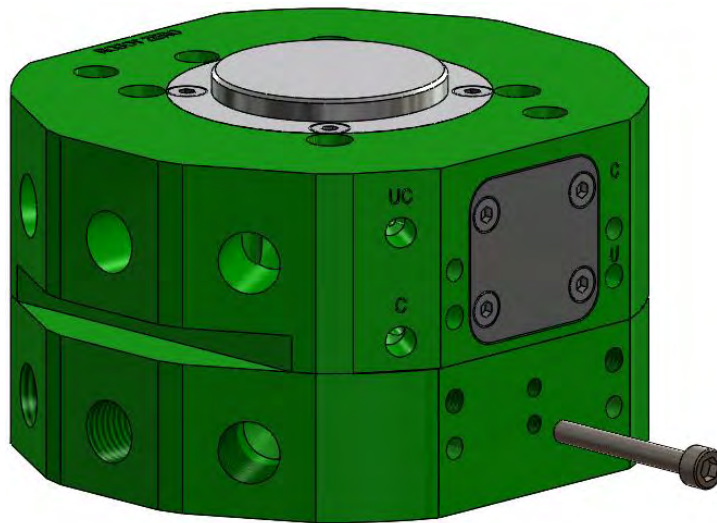

Figure 7.4-1. Manual Uncouple Feature
4. Insert a M3x25mm long socket head cap screw in the hole located in the middle of the Tool Adaptor Housing as shown in Figure 7.4-1. This requires any tool side modules to be removed.